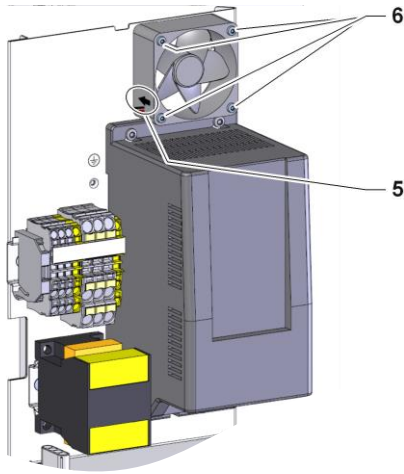

Fig. 5: Fan install electrical part
- Mount the fan (EV 1) with air flow in the direction of the mounting plate (see arrow on the housing, Label 5 → Fig. 5) and fasten it with 4x screws (Label 6 → Fig. 5).
- Pay attention to air flow direction (Label 5 → Fig. 5).